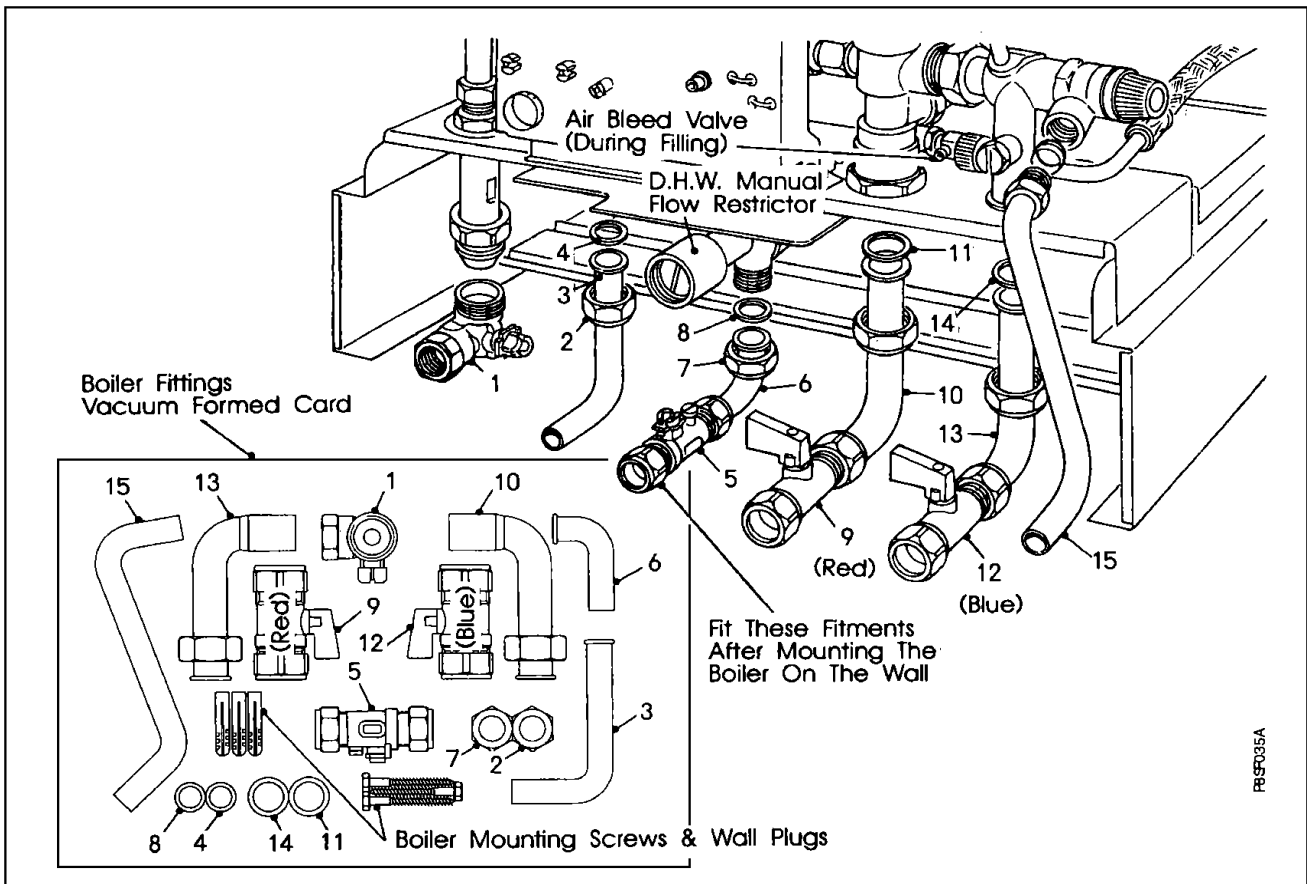

Fig 16
All connections to the appliance are supplied unassembled in the boiler carton on a vacuum formed card. Remove all fittings and assemble to the appliance. (Fig. 16).
(Fig. 16)
- b) Fill and vent the system until the pressure gauge registers 1.5 bar (21.5 psi), examine for leaks and rectify. Do not overtighten joints. During filling ensure that the plastic screw on top of the automatic air vent is not tight and air can escape. **Do not tighten the air vent screw after filling.** To ease filling an air bleed valve (Fig. 16, Page 17) is fitted to the diverter valve which must be opened until water flows out. The valve should then be closed.